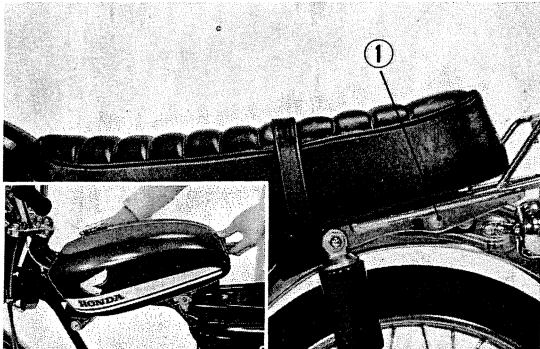

Fig. 143 Seat and fuel tank removal
Detach the sub-carrier and then remove the seat. (Fig. 143)
- 4) Position the fuel cock lever to STOP position, disconnect the fuel tube from carburetor, and then remove the fuel tank by pulling toward the rear and slightly upward. Remove the strainer cup, take out the strainer screen and packing and remove the mounting screws to detach it from the fuel tank. (Fig. 143)